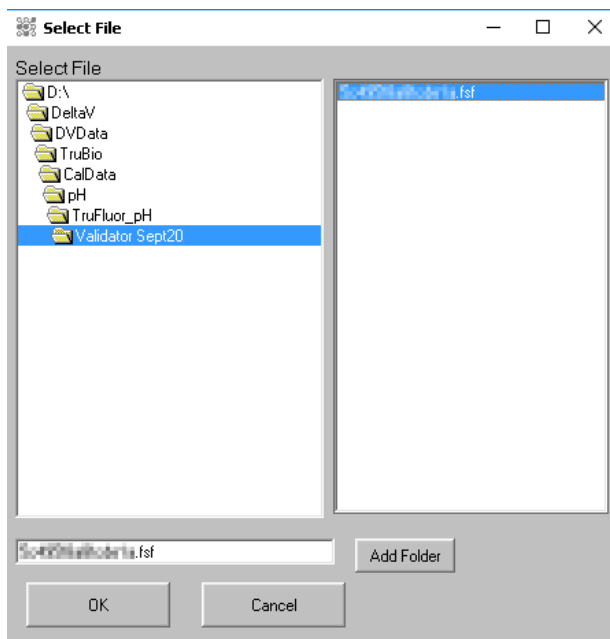
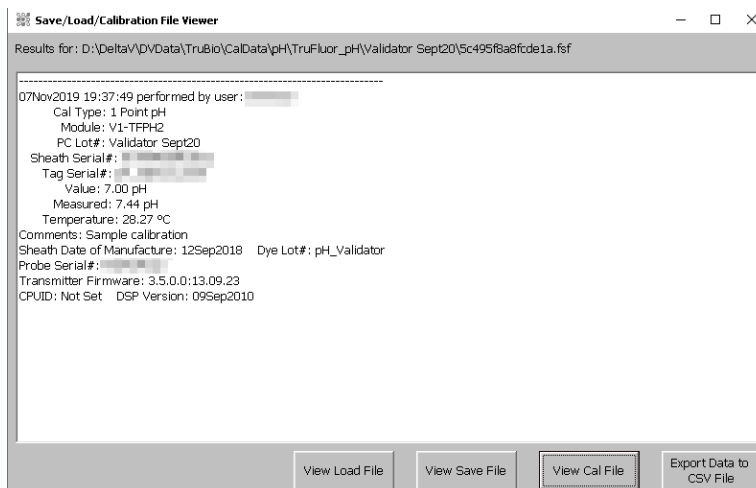

Figure C.14. Selecting desired sensor file.
Figure C.15. Save Load file results.
5. Select the desired file from the drop-down menu (Figure C.14) to view the calibration data (Figure C.15).